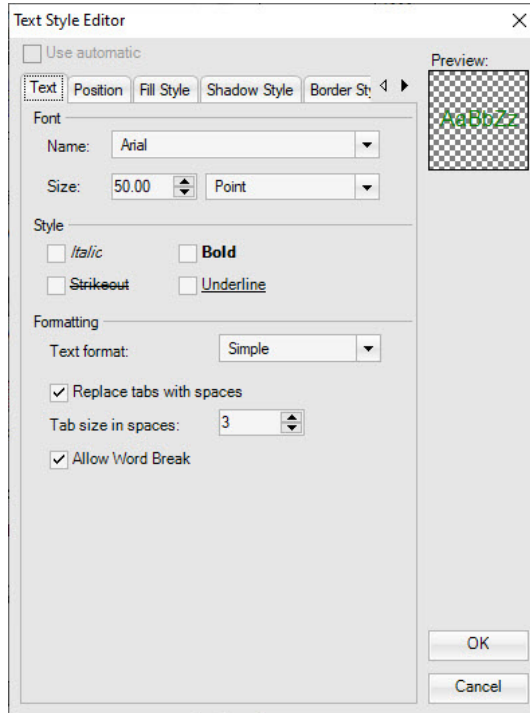

Figure 3-26: Text Style Editor
3. Right-click on the **Text Box** to open the **Text Style Editor**, see Figure 3-26, and change the text properties as desired then select **OK**.